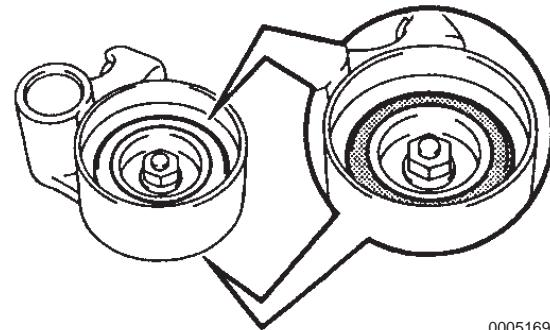

Figure 5-171
1. Visually check the seal of the idler pulley. If oil leakage is present replace the idler pulley (**Figure 5-171**).